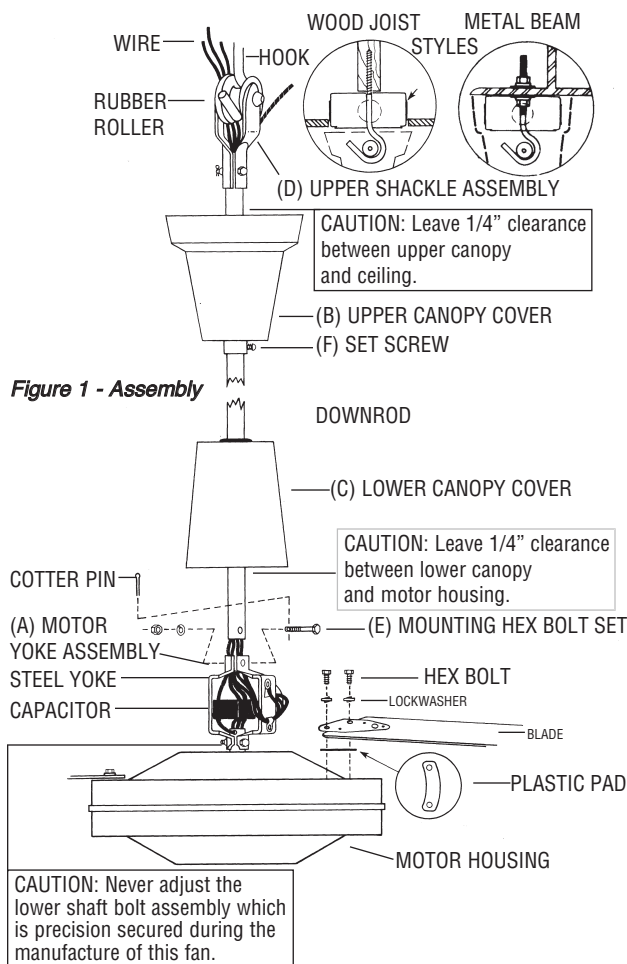

Figure 1 - Assembly
2. At the motor yoke assembly (A), remove the cotter pin and loosen the hexagon nut. Carefully remove spring washer and the hexagon screw (E). (See Figure 1)
3. Slide the upper canopy cover (B) (bell shaped) up the rod. Slide the lower canopy cover (C) up to rod.
4. Feed the three wires and the safety cable through the center hole in the steel yoke connecting piece above the motor (A) and then continue feeding wires and cable through the downrod until the wires and cable come out at the upper shackle end (D).
5. Mount the downrod to the yoke (A) and replace the hexagon screw. Secure the spring washer hexagon nut and spread the coffer pin.
CAUTION: Blades must be fastened to the motor as shown in Figure 1. DO NOT reverse blades when installing.